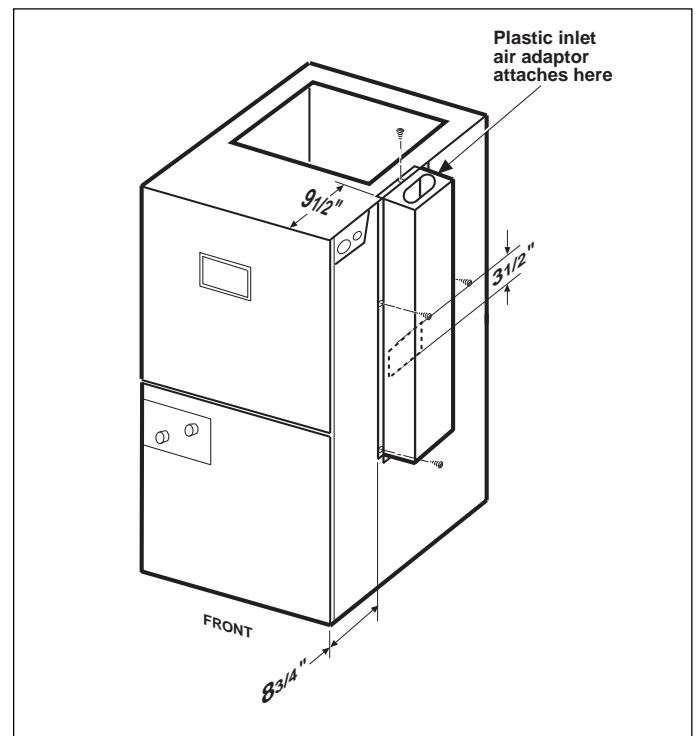

Figure 5. Upflow Shown.
- the front of the cabinet and the side flange $8\frac{3}{4}$ " from the front of the cabinet. For downflow applications the duct would still mount in the upright position as shown but the $3\frac{1}{2}$ " W x 5" L knockout opening will be 15" above the bottom of the cabinet, as the unit will then be upside down. Attach one of the #10 sheet metal screws provided through the top flange hole and into the cabinet. Attach three more #10 screws into the three remaining flange holes as shown in Figure 5. The other two screws will be used to attach the plastic inlet air adaptor from the VentilAire III or IV at the top of the duct.